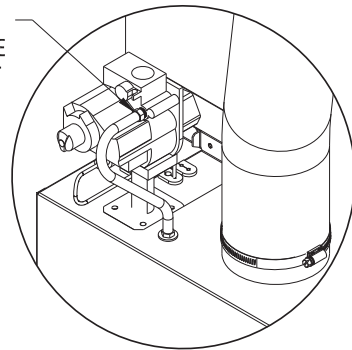

Figure 10.4: Regulator Tube Location On Gas Valve (Direct Vent Boilers Only)
4. If boiler is installed with a Direct Vent Conversion Kit, disconnect the regulator tube from the hose barb on the gas valve (Figure 10.4).
8. If boiler is installed with a Direct Vent Conversion Kit, reconnect the regulator tube to the hose barb on the gas valve (Figure 10.4).